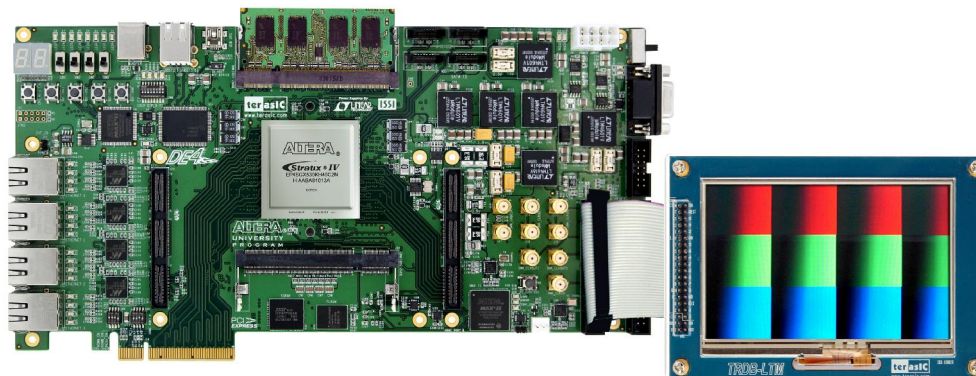
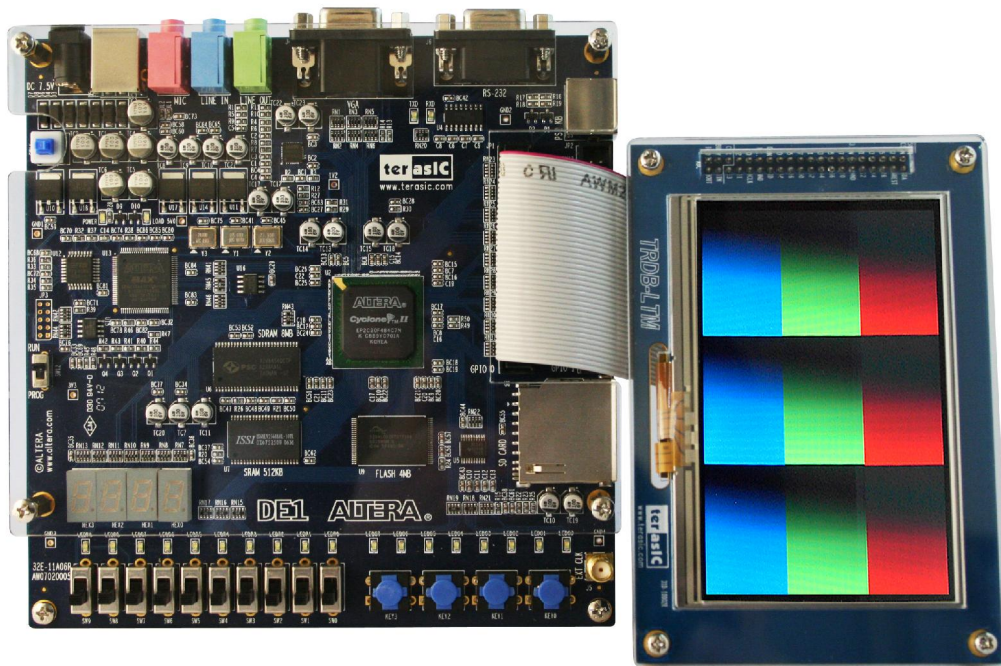

Figure 4.12. The connection setup for the pattern generator demo with DE4 board
Figure 4.15. The connection setup for the pattern generator demo with DE1 board
1. Ensure the connection is made correctly as shown in Figure 4.12 and Figure 4.15 Make sure the IDE cable is connected to JP1 of the DE4/DE2-115/DE2/DE1 board